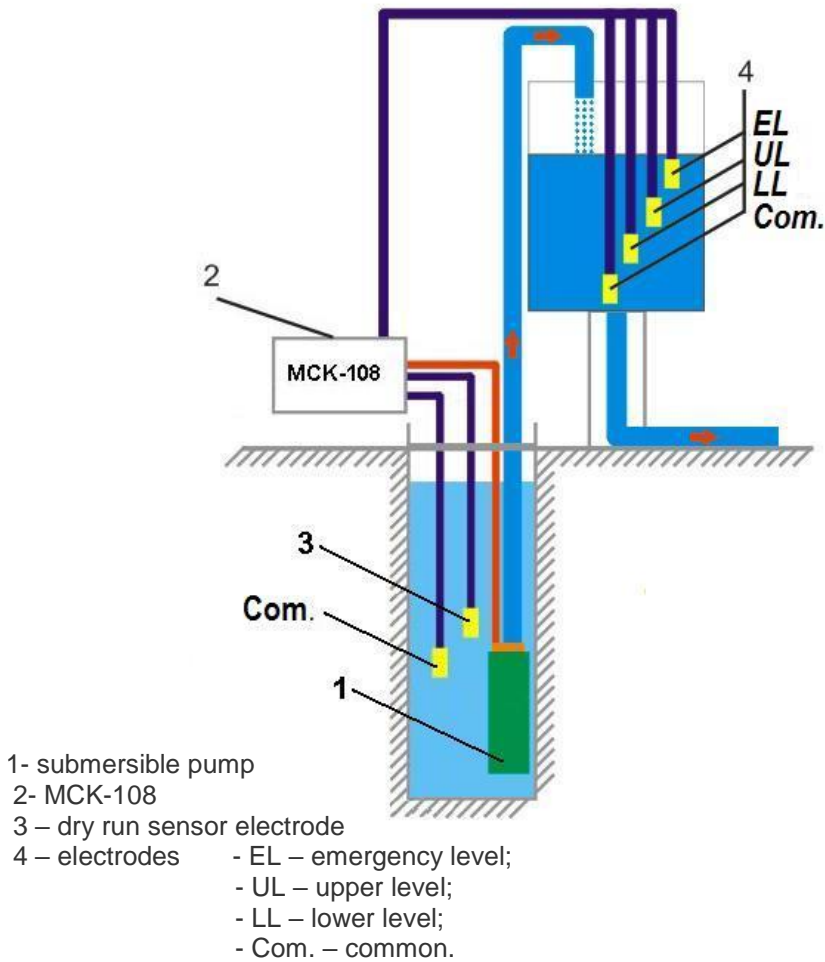

Figure 2.4 – Application of MCK-108 in the filling mode with conduction-measuring sensors (level sensors)
- filling with level sensors (Figure 2.4);